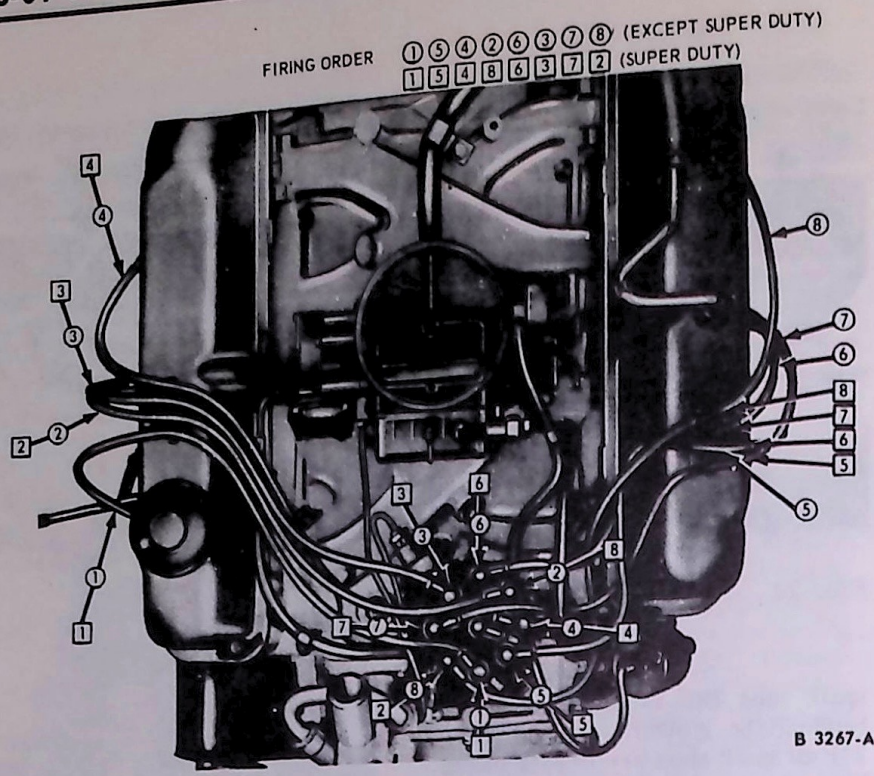

FIG. 25 Typical Ignition Wiring—V-8 Engines
2. Remove the brackets from the old spark plug wire set and install them on the new set in the same relative position. Install the wires in the brackets on the valve rocker arm covers (Fig. 25). Connect the wires to the proper spark plugs. Install the coil high tension lead. Be sure the No. 7 spark plug wire is positioned in the bracket as shown in Fig. 25 (except Super Duty).